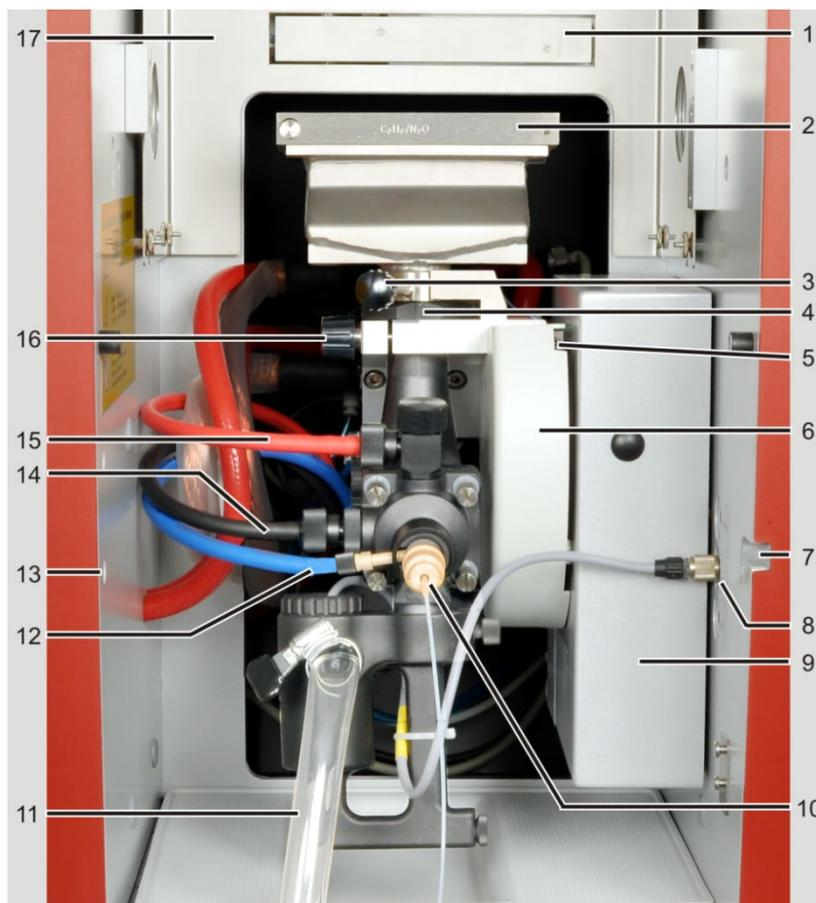

Fig. 41 Connections at the burner-nebulizer system
The mixing chamber must be aligned to the height adjustment, the marking on the connector must be above the edge of the holding fixture (4 in Fig. 41 p. 65).
- Connect the hose for fuel gas (red) at the top of the mixing chamber head (15 in Fig. 41 p.65)
- Connect the hose for oxidant (blue) at the nebulizer (12 in Fig. 41 p.65)
- Connect the hose for auxiliary oxidant (black) at the side of the mixing chamber (14 in Fig. 41 p.65)